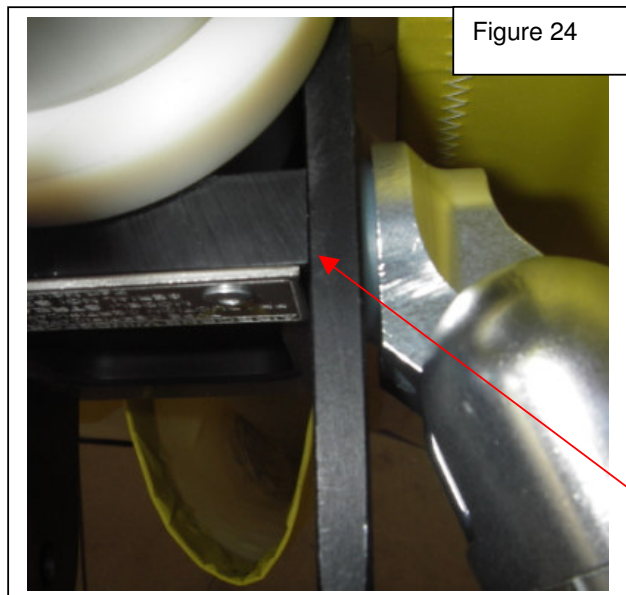

Figure 24
3. Tighten AN5 u bracket cross bolt down firmly so as to close any gaps between u bracket and negative load plate. See figure 24